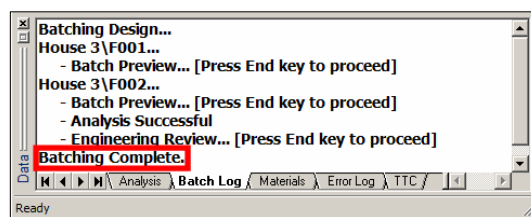

Figure 128: Batch log message that the batching process has completed.
5. When all files in the batch have completed the analysis/design process, the *Batch Log* tab of the data pane will display the message "*Batching Complete.*" (See the Figure 128 at right.)